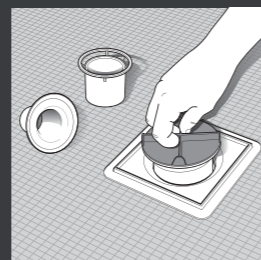

fig 8
**7** Screw the upper section of the drain body into the lower section through the tray, being careful not to disturb the tray. Realign as necessary. **See fig 8.**